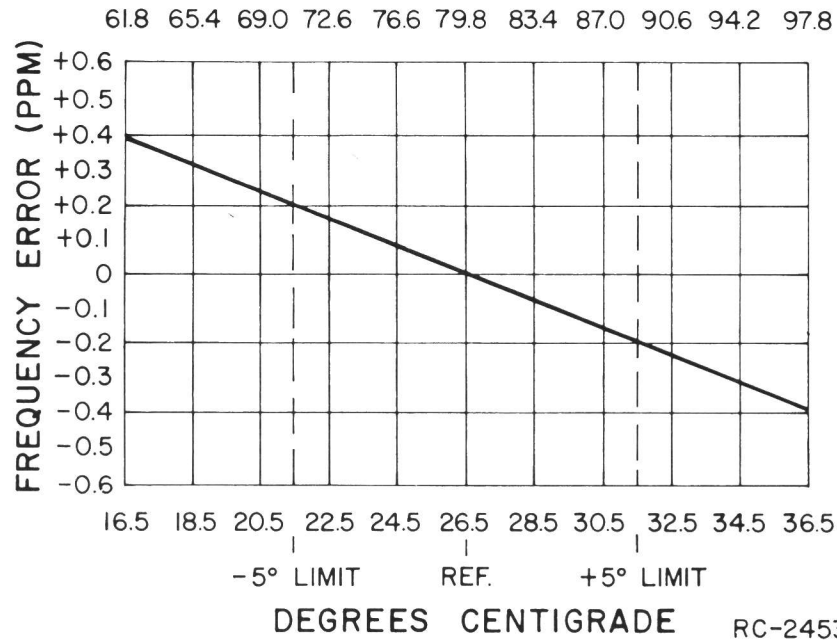

Figure 8 - Frequency Characteristics Vs. Temperature
To set ICOM frequency using "beat frequency" method, the temperature should be at 26.5°C (79.8°F). If the temperature is not 26.5°C, then offset the "ON FREQUENCY" signal (at the receivers input), as a function of actual temperature, by the frequency ERROR FACTOR (in PPM) shown in Figure 8.
- Maintain the radio at 26.5°C (±10°C) and offset the oscillator, as a function actual temperature, by the frequency error factor shown in Figure 8.
B. To hold setting error to ±0.35 PPM (which is considered reasonable for 2 PPM ICOMs): Maintain the unit at 26.5°C (±5°C) and offset the oscillator, as a function of actual temperature, by the frequency error factor shown in Figure 8.